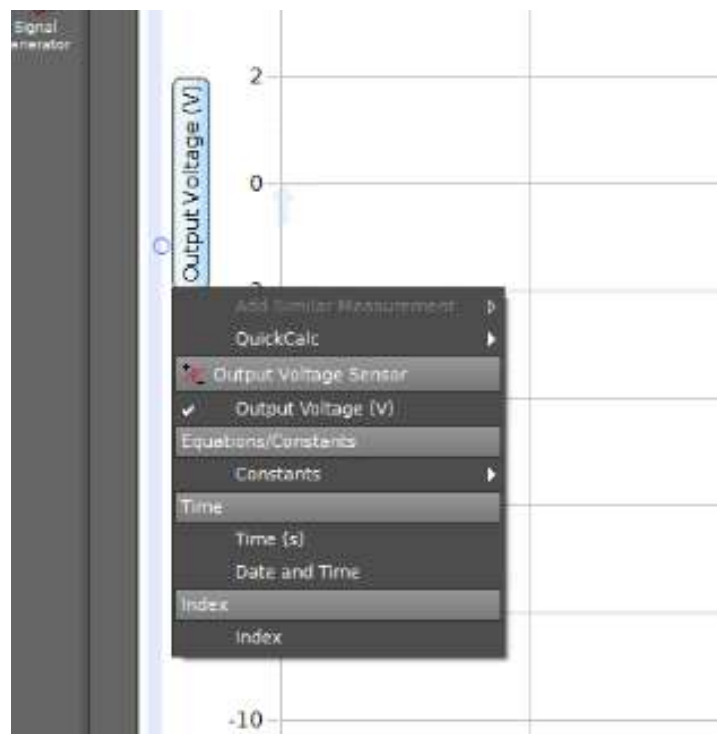

Figure 3: Setting the y-axis to “Output Voltage Sensor”
**Activity 2:** output a 5V direct current signal. Plot the output signal by dragging the “Scope” logo on the right bar of the Capstone Window (see Figure 3) and setting up the y-axis to be “Output Voltage” (see Figure 4). Use the multimeter to verify that this is indeed the output of the machine.